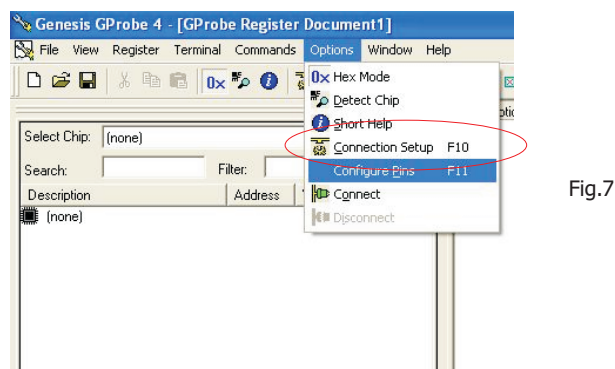

Fig.7
4. Press the options then choose connection setup as shown in Fig.7